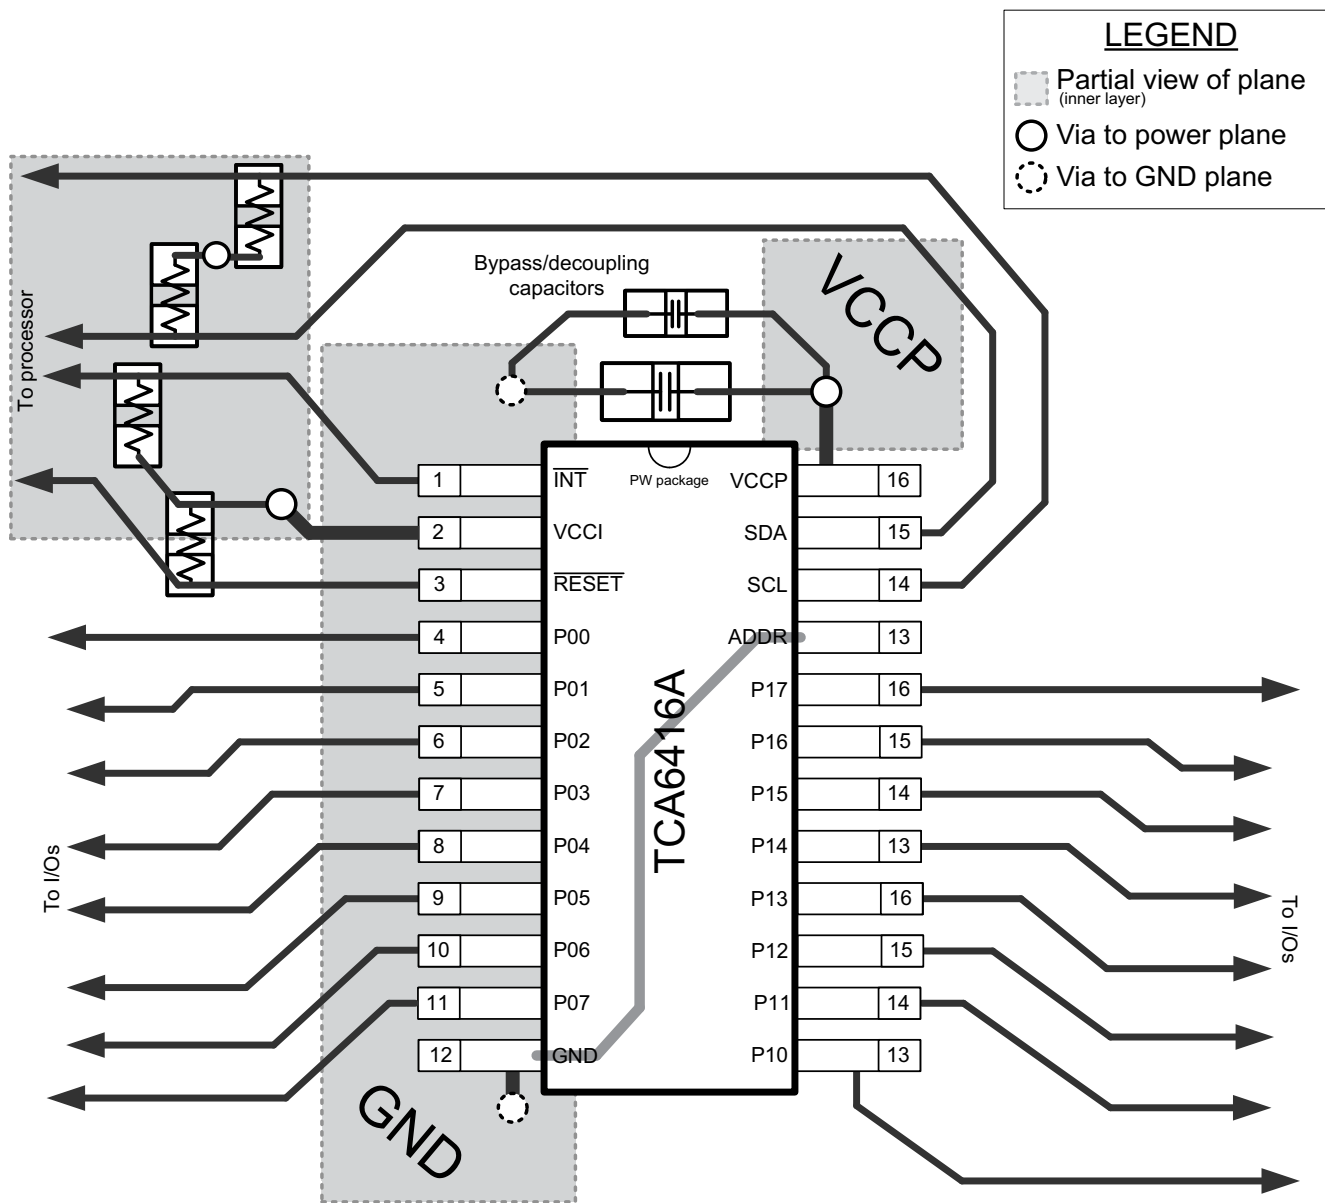

Figure 11-1. TCA6416A Layout
In all PCB layouts, it is a best practice to avoid right angles in signal traces, to fan out signal traces away from each other upon leaving the vicinity of an integrated circuit (IC), and to use thicker trace widths to carry higher amounts of current that commonly pass through power and ground traces. By-pass and de-coupling capacitors are commonly used to control the voltage on the VCCP pin, using a larger capacitor to provide additional power in the event of a short power supply glitch and a smaller capacitor to filter out high-frequency ripple. These capacitors should be placed as close to the TCA6416A as possible. These best practices are shown in Figure 11-1.
For the layout example provided in Figure 11-1, it would be possible to fabricate a PCB with only 2 layers by using the top layer for signal routing and the bottom layer as a split plane for power (V_{CCI} and V_{CCP}) and ground (GND). However, a 4 layer board is preferable for boards with higher density signal routing. On a 4 layer PCB, it is common to route signals on the top and bottom layer, dedicate one internal layer to a ground plane, and dedicate the other internal layer to a power plane. In a board layout using planes or split planes for power and ground, vias are placed directly next to the surface mount component pad which needs to attach to V_{CCI} , V_{CCP} , or GND and the via is connected electrically to the internal layer or the other side of the board. Vias are also used when a signal trace needs to be routed to the opposite side of the board, but this technique is not demonstrated in Figure 11-1.